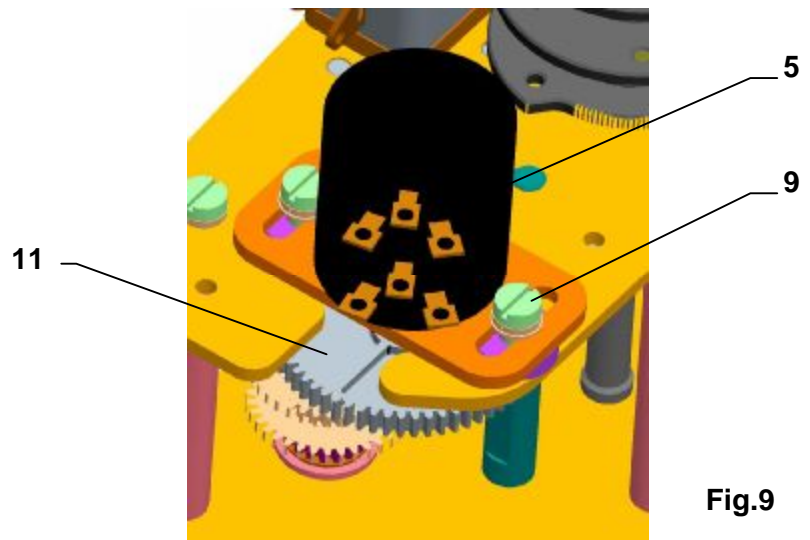

Fig.9
- Turn the position indicator disc (32) to bring a mark identified with a symbol for the „close“ direction in coincidence with a mark on the upper cover aperture (If it is difficult to turn the wheel, release the screw using the screwdriver to fix the wheel).
- Turn the upper part of the position indicator disc (32) to bring a mark identified with a symbol for the „open“ direction in coincidence with the mark on the upper cover aperture.
4.5 Adjustment of resistant transmitter (Fig.9)